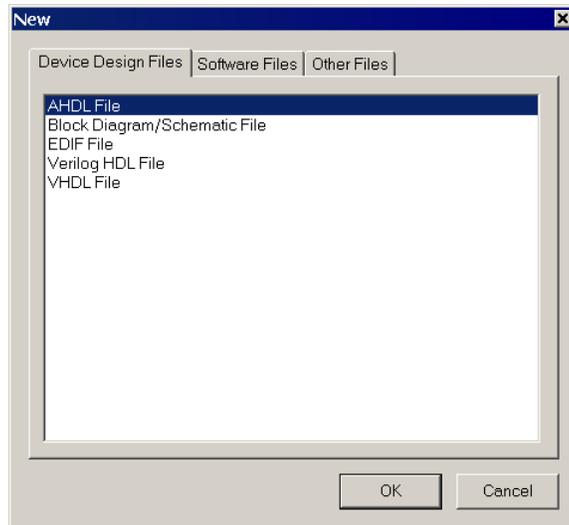
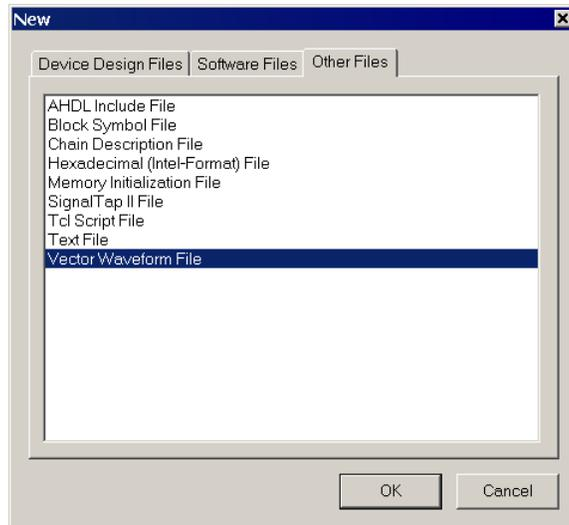

Figure 32. Need to prepare a new file.
Figure 33. Choose to prepare a test-vector file.
1. Open the Waveform Editor window by selecting **File > New**, which gives the window shown in Figure 32. Click on the **Other Files** tab to reach the window displayed in Figure 33. Choose **Vector Waveform File** and click OK.